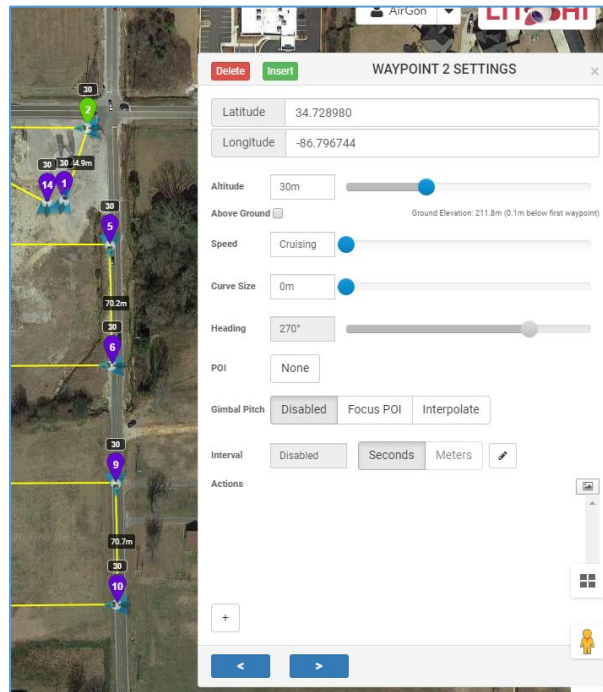

Figure 15 – Waypoint Setting Dialog
- Click on waypoint 2 to select it. It should turn green when it is selected and the waypoint setting dialog should appear (Figure 15) if it is not already visible.